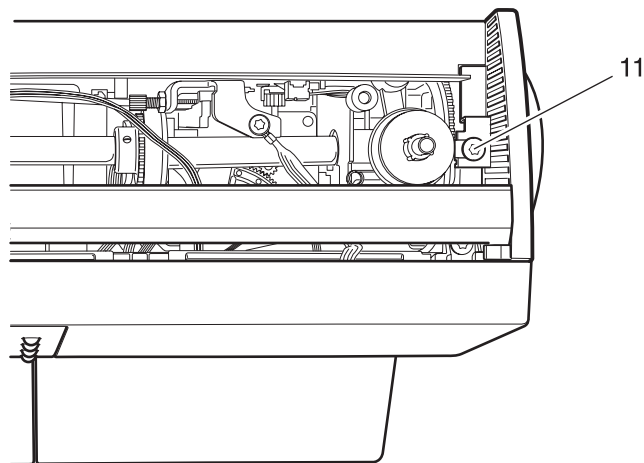

Fig. 8
- Loosen screw 11 on the stand cover (fig. 8).